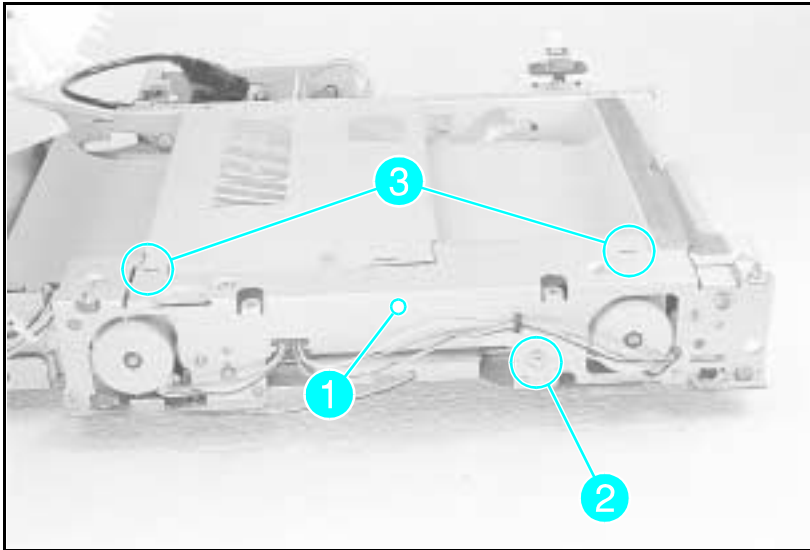

Figure A-20 **Holding Tray Belt Cover Plate**
- 1** Remove all the screws securing the plate (see Figure A-20, callout 1).
- 2** Remove (1) E-clip shown in Figure A-20, callout 2.
- 4** Release (2) latch points shown in Figure A-20, callout 3.